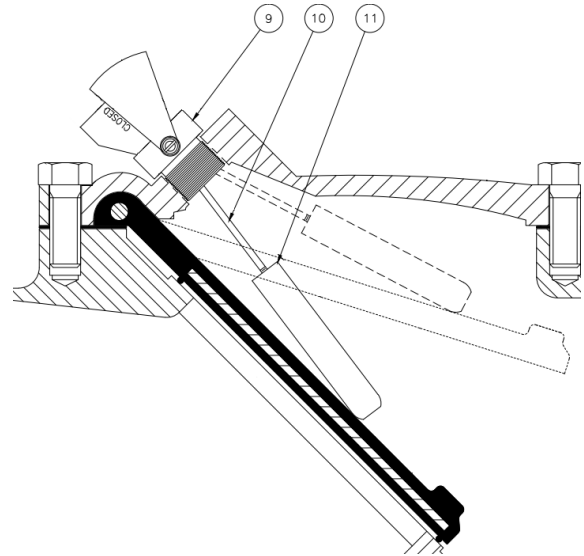

Figure 2
Relieve pressure and drain the pipeline. Refer to figure 2 on page 2. Remove the cover bolts (4), pry cover (2) loose and lift off valve body. Remove flexible disc (3) and inspect for cracks, tears or damage in rubber sealing surface. Inspect seating surface in body for damage. Check internal spring (6) and ensure it is securely attached to cover (2). Clean and inspect parts. Replace worn parts as necessary.
The optional visual position indicator (Figure 2) provides a local indication of the flexible disc's position.